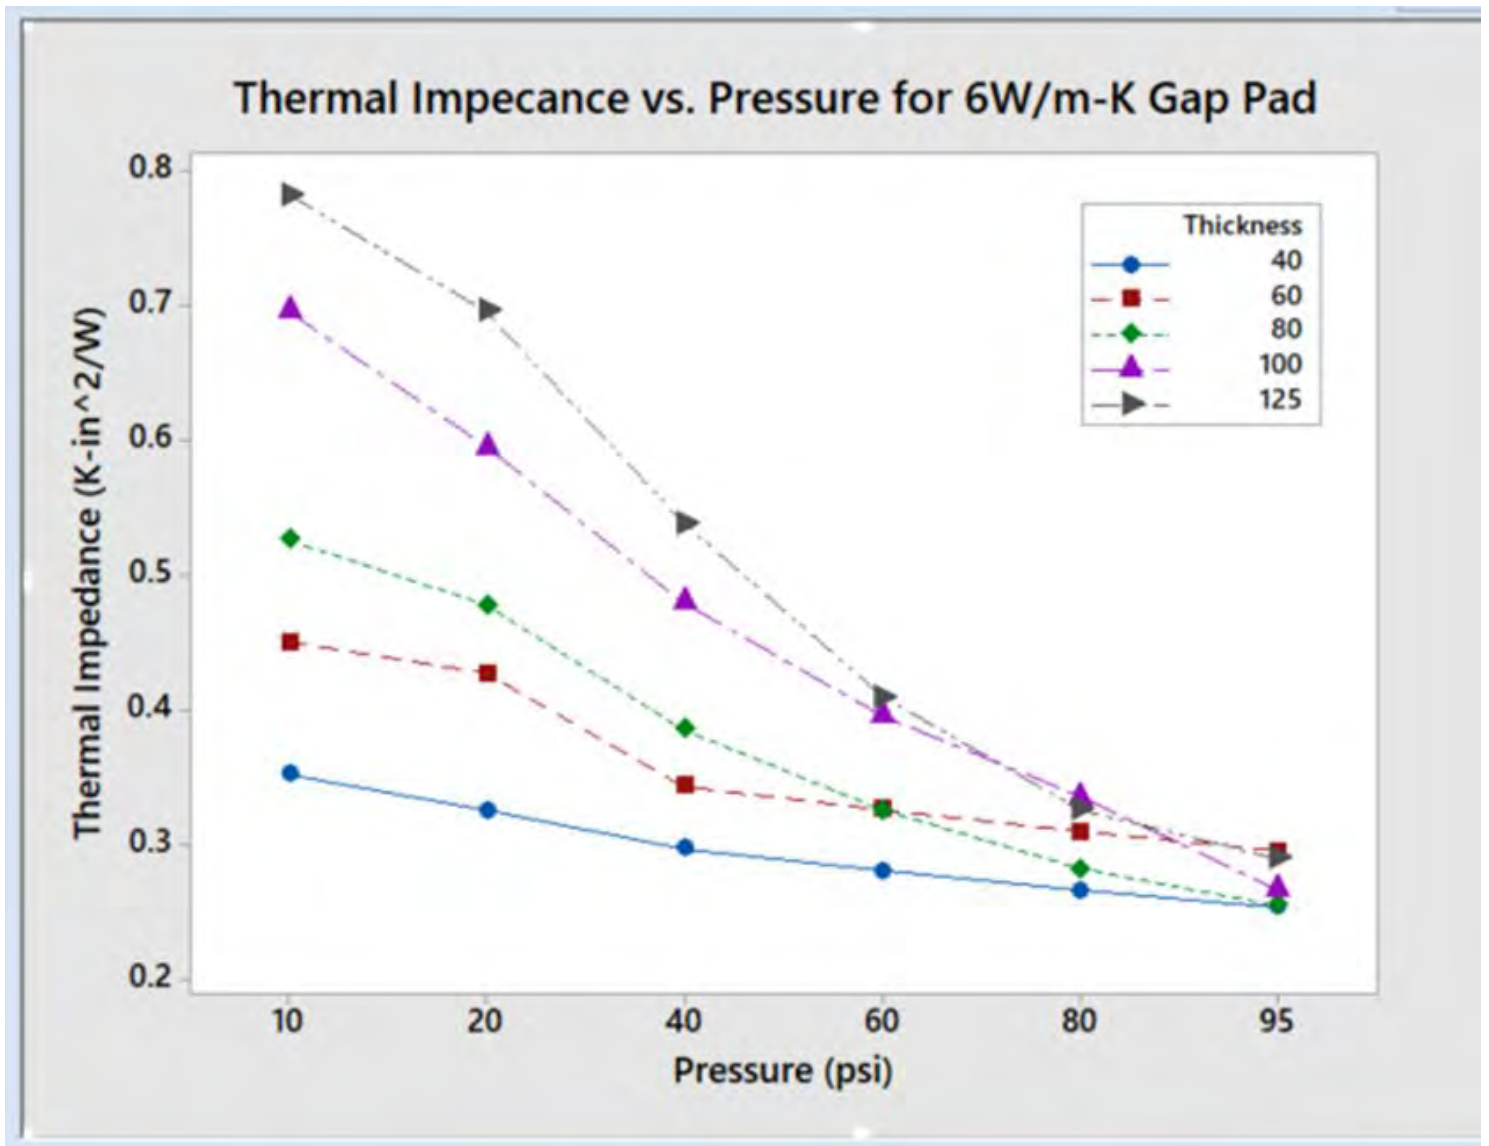

Figure 10. Effect of pressure on thermal impedance.
**FIGURE 10** shows the results from the ladder study as described in Table 2. As predicted, there is a clear trend in improved thermal performance (lower TI) with increased pressure regardless of initial sample thickness. This is the result of better wet out and thinner bond line with increased test pressure.